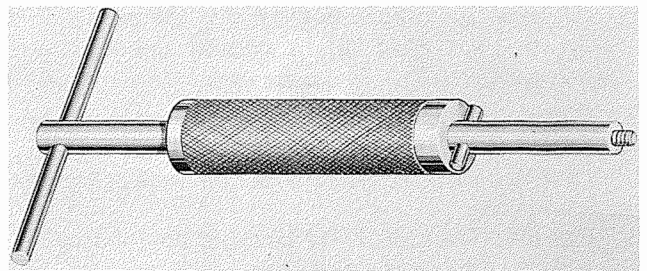

Figure 7-109A. Fuel Injection Pump Drive Shaft Gear Puller
b. Withdraw the fuel injection pump drive shaft gear using puller 805298. See figure 7-109A.